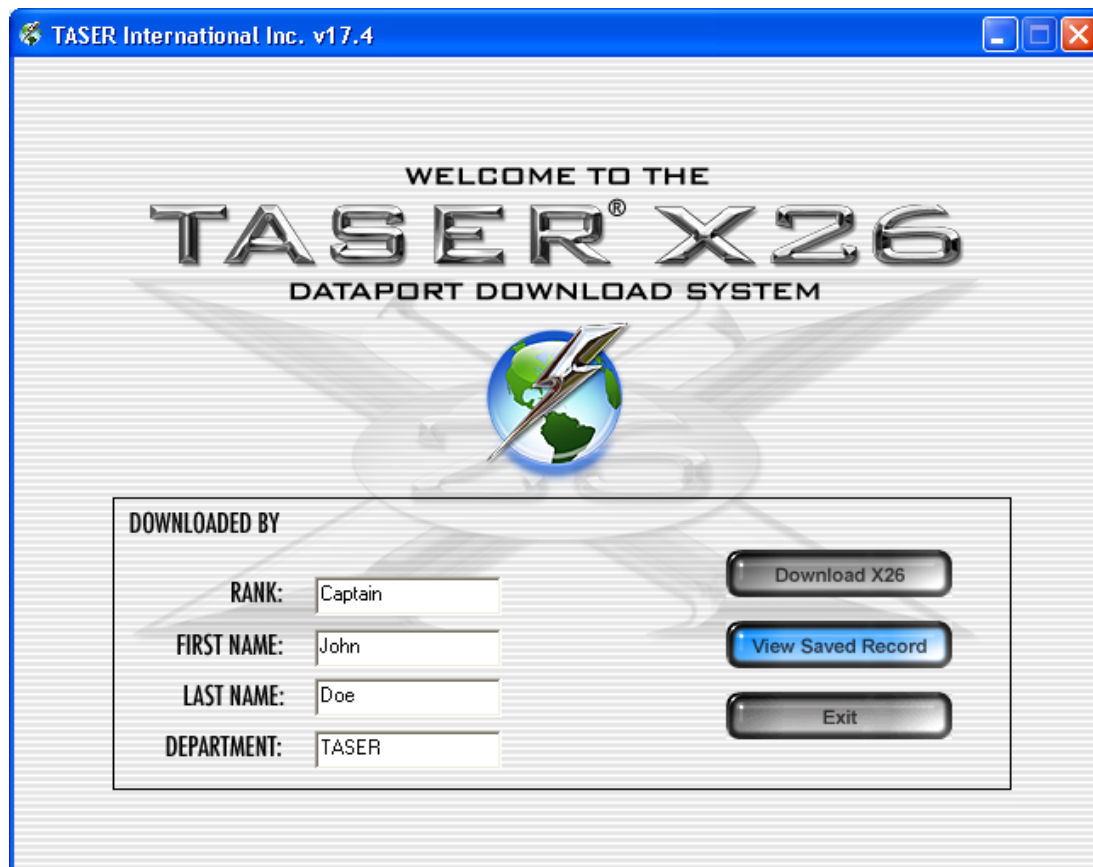

Figure 29
1. To view a previously saved record, select **View Saved Record** from the initial program screen (Figure 29).